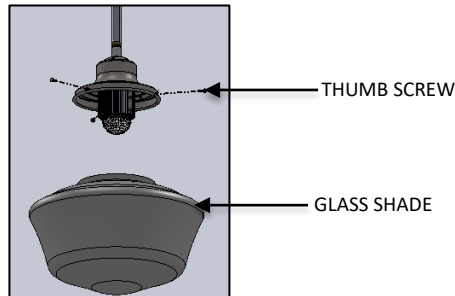

FIG. 15 – GLASS SHADE INSTALLATION
8. Install the GLASS SHADE using the THUMB SCREWS provided as shown in FIG.15.